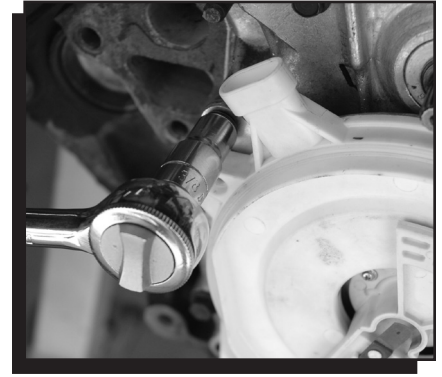

Figure 9 Removing the Distributor.
17. Remove the three bolts that secure the distributor to the front cover (Figure 9).